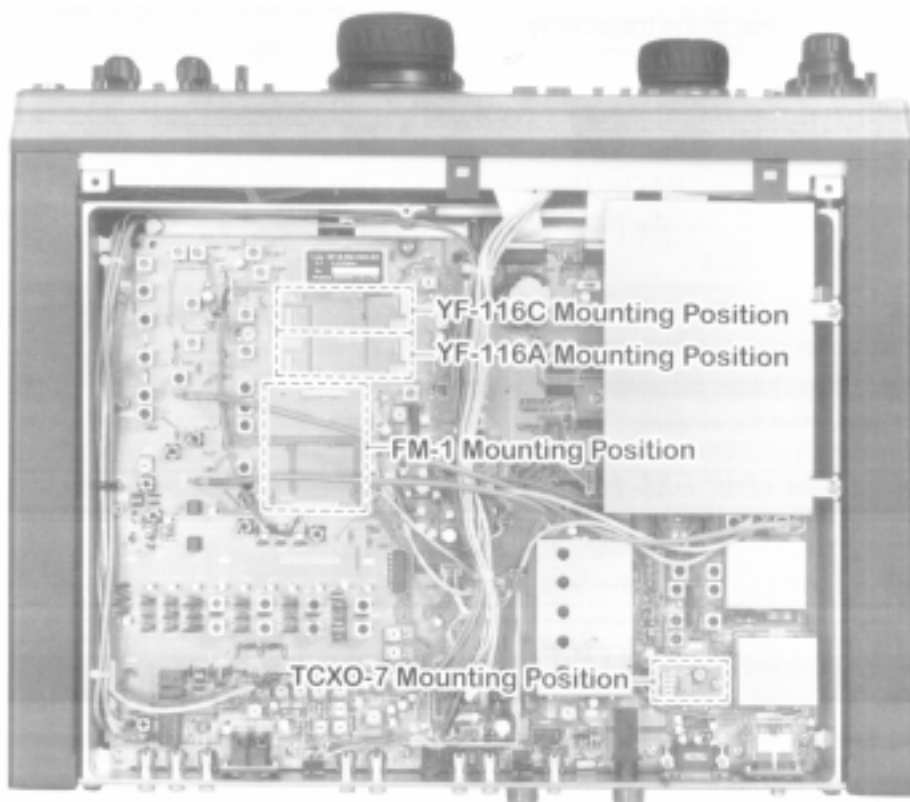

Figure 2
- ① Remove the bottom case of the transceiver (see previous page).
- ② Refer to Figure 2 on the previous page, and locate the mounting positions for the CW (**YF-116C**) and/or AM (**YF-116A**) filters on the MAIN Unit.
- ② Refer to Figure 2 on the previous page, and locate the mounting position for the **TCXO-7**, which currently is occupied by the “REF OSC UNIT.”
- ② Refer to Figure 2 on the previous page, and locate the mounting positions for the **FM-1** on the MAIN Unit.